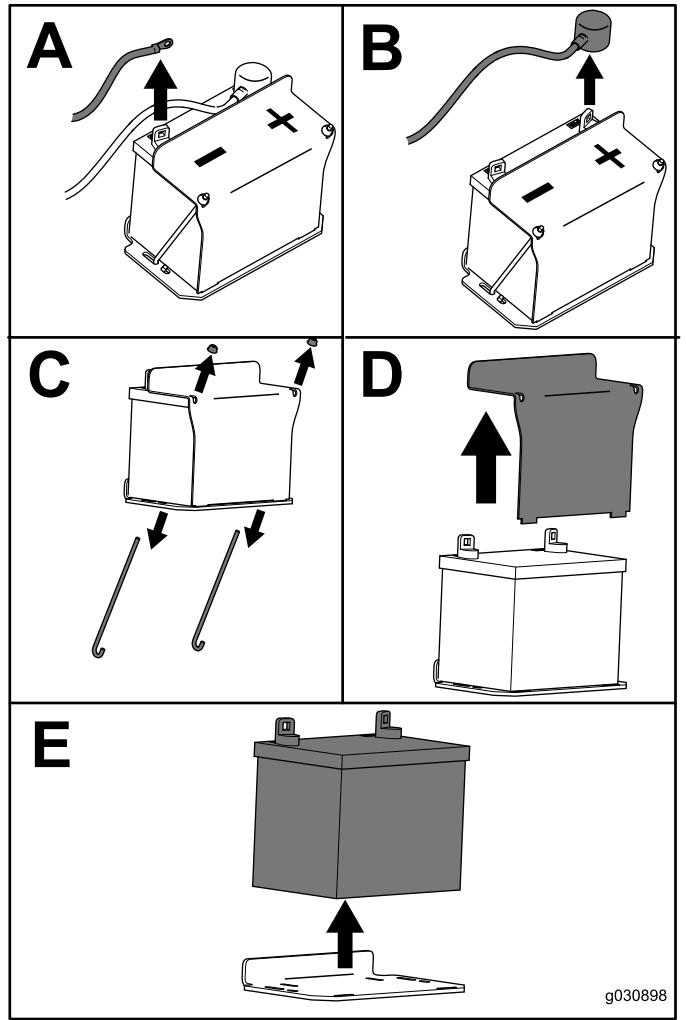

Figure 49
- Remove the battery as shown in Figure 49.